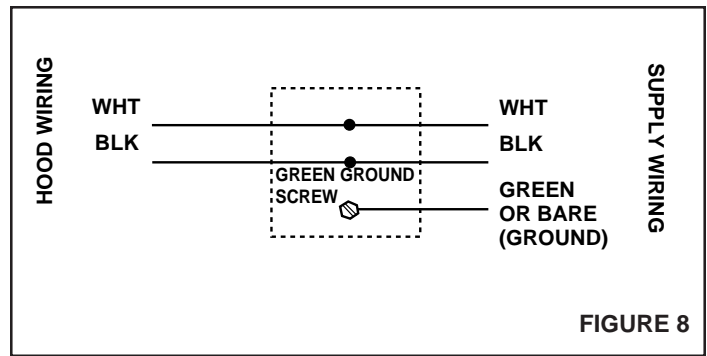

FIGURE 8
2. Refer to **FIGURE 8**. Make wiring connections.